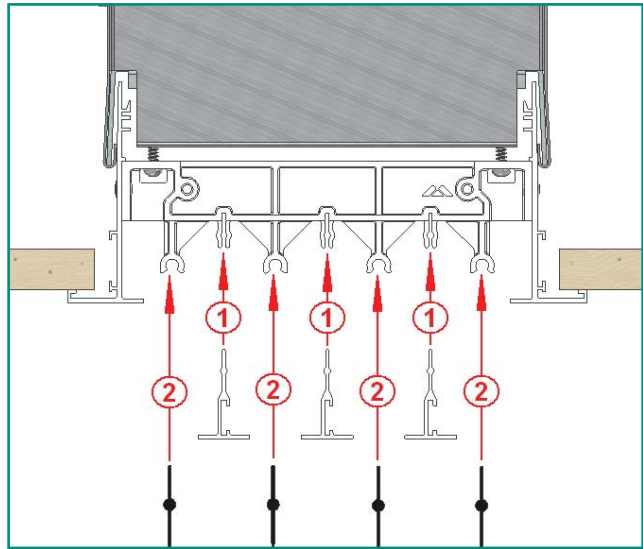

Figure 17: Replace Tee Bars, then Paddle Blades
- 4- Reassemble the diffuser by first replacing the Tee bars (1), then the paddle blades (2) as seen in figure 17